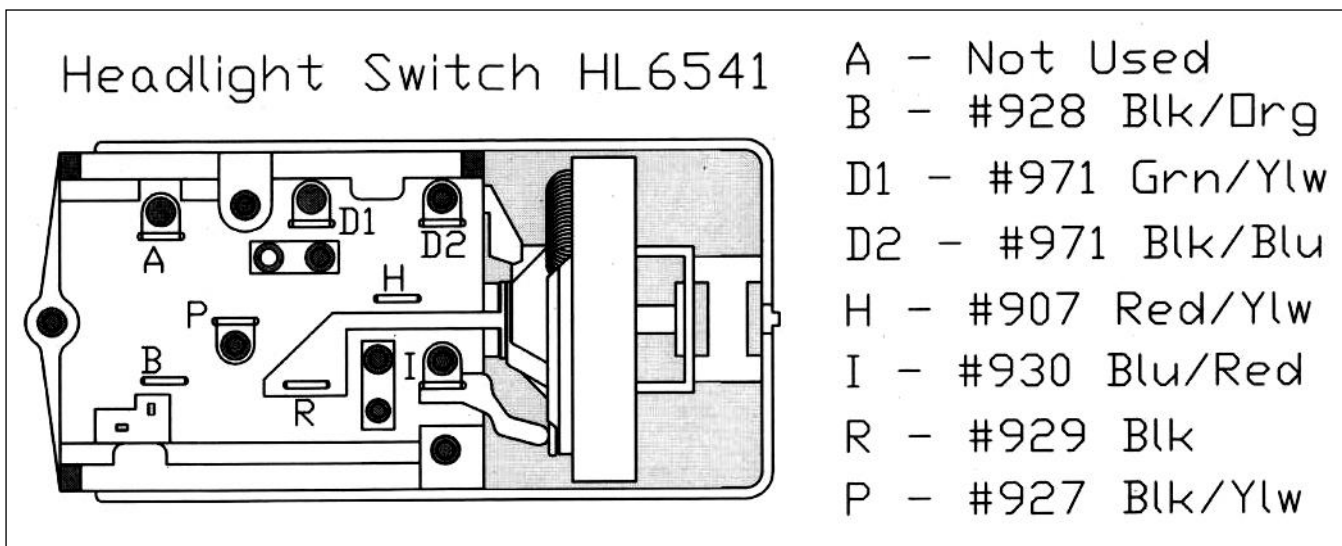

Figure 7-16 Headlight Switch Connections
7.8.1 Connect the HEADLIGHT SWITCH wires as illustrated in **Figure 7-16**. After completing the installation of the Headlight Switch wires locate the DASH GROUND #969 wire, which is directly above the steering column in the main body of the harness and connect it to the chassis ground screw behind the gauge cluster.